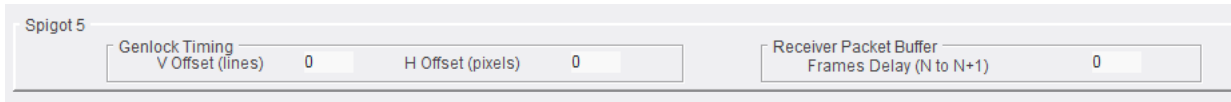

Fig. 6-32: Destination Timing - Spigot Panel
**Spigots 5 to 16** are configured as destination spigots. See Figure 6-32 for detail on each spigot panel.